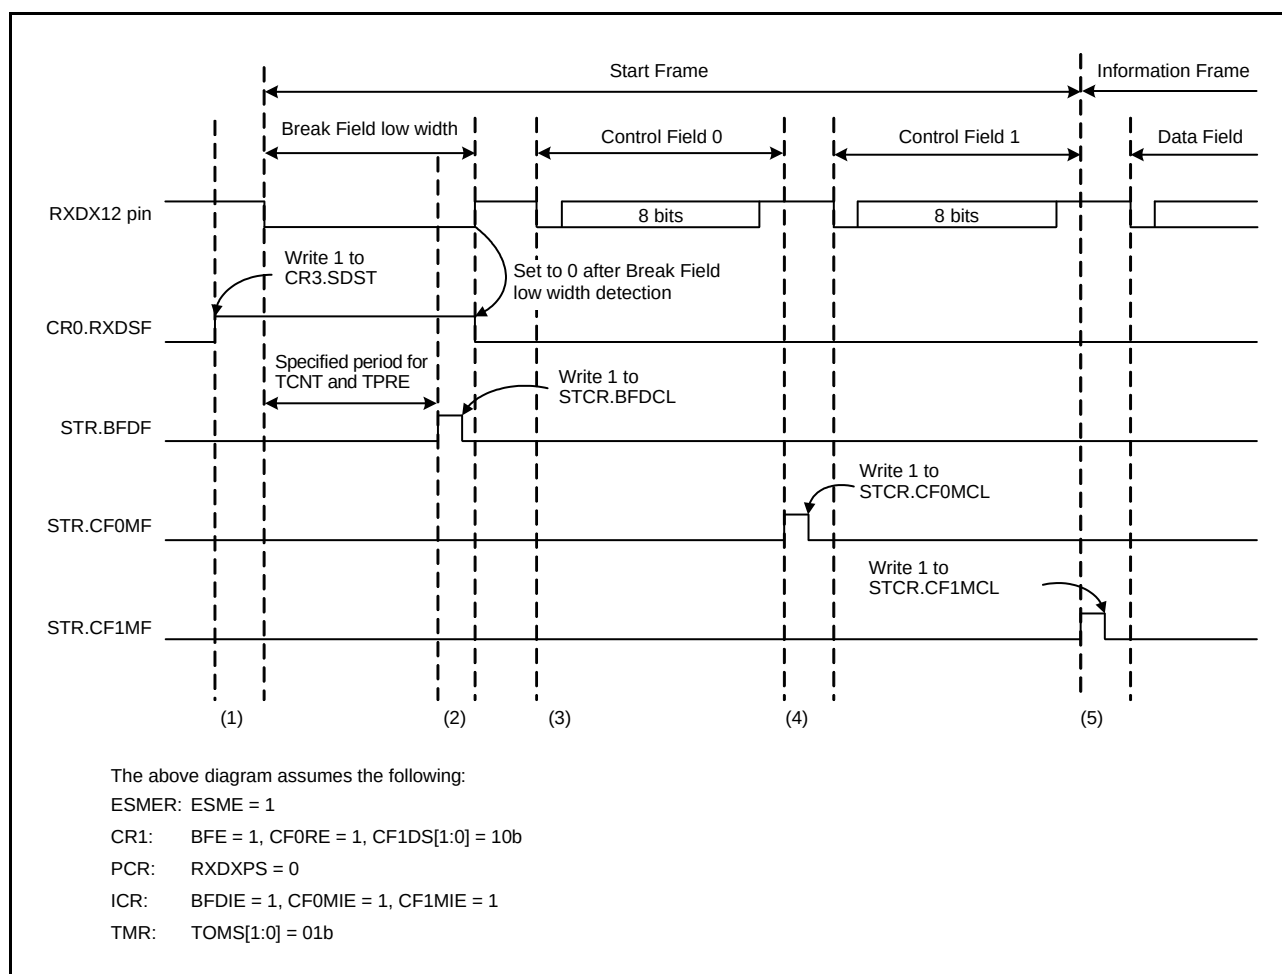
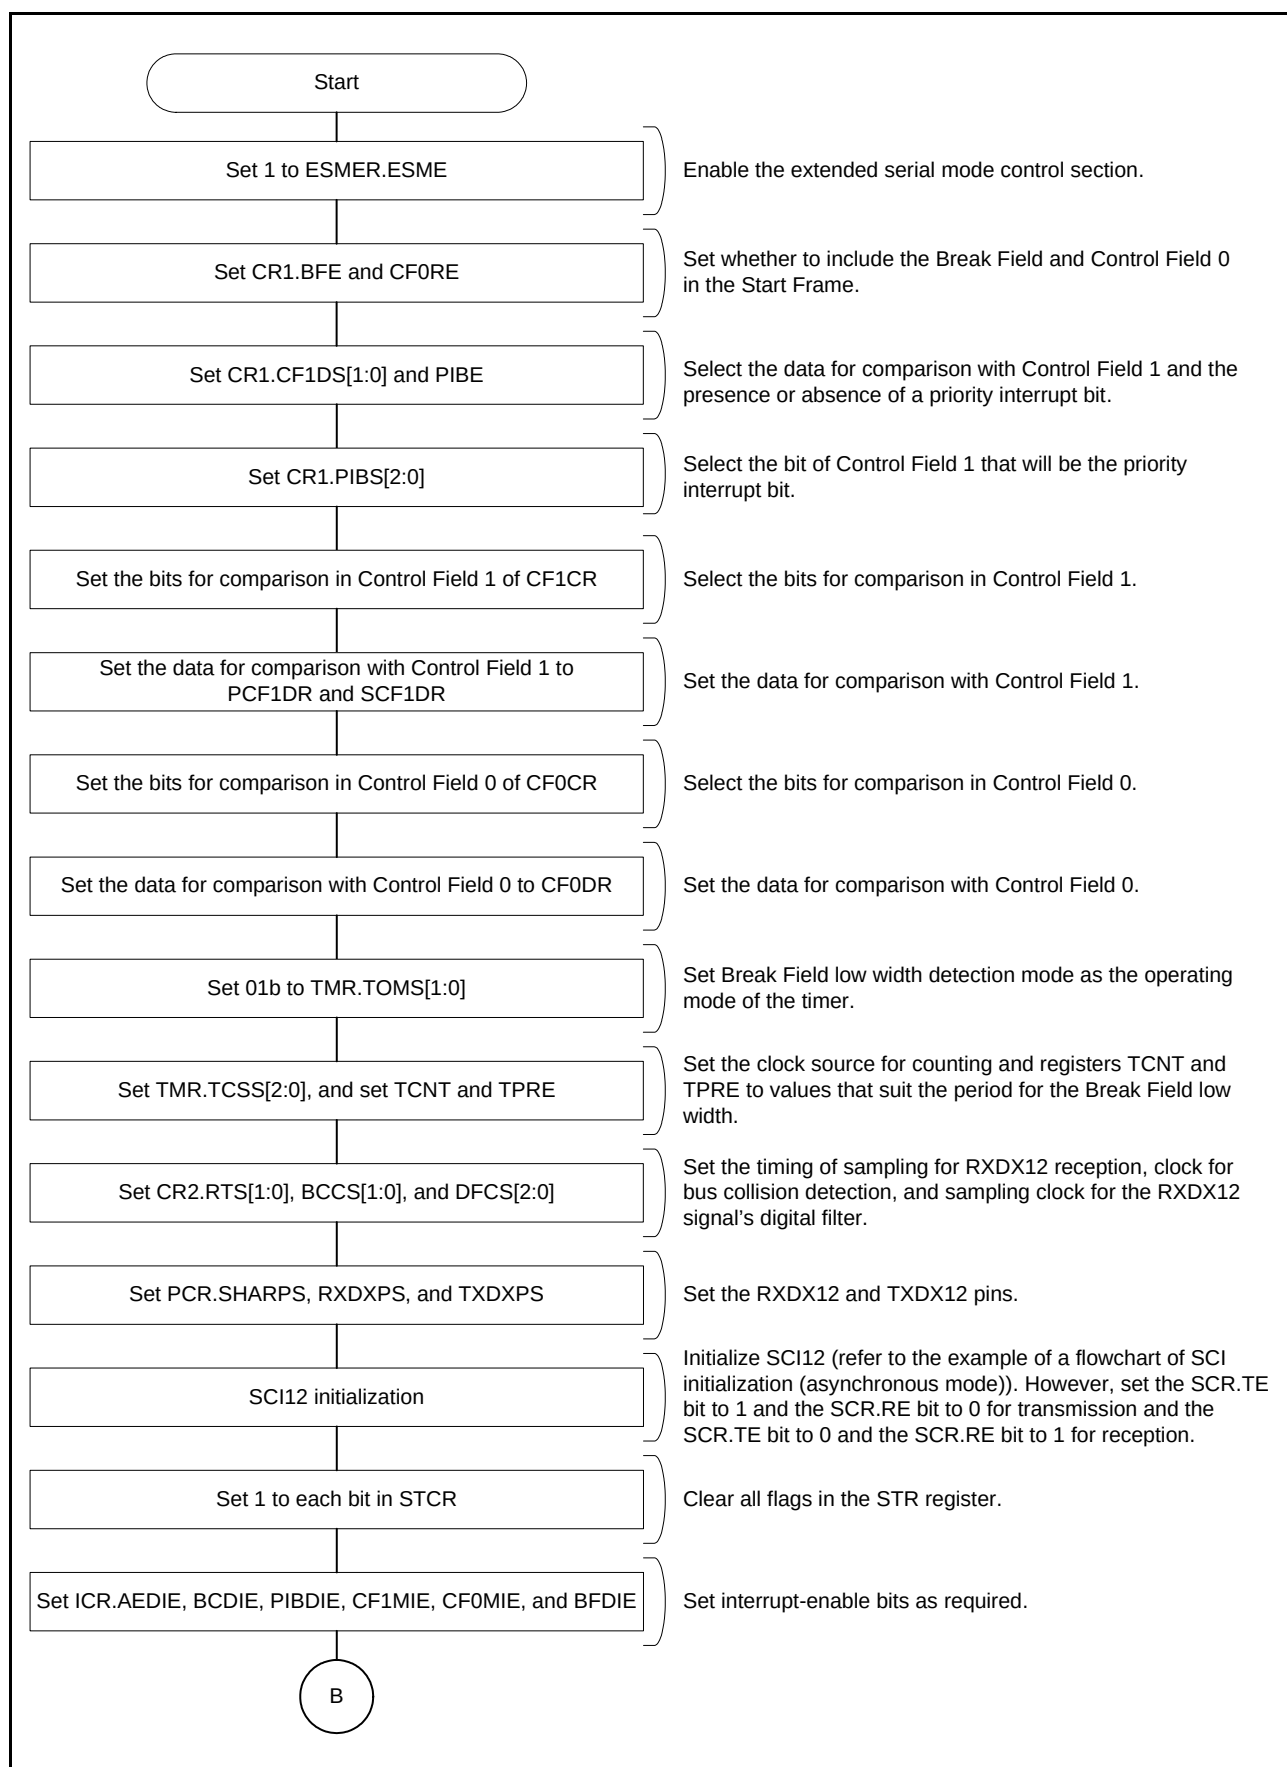
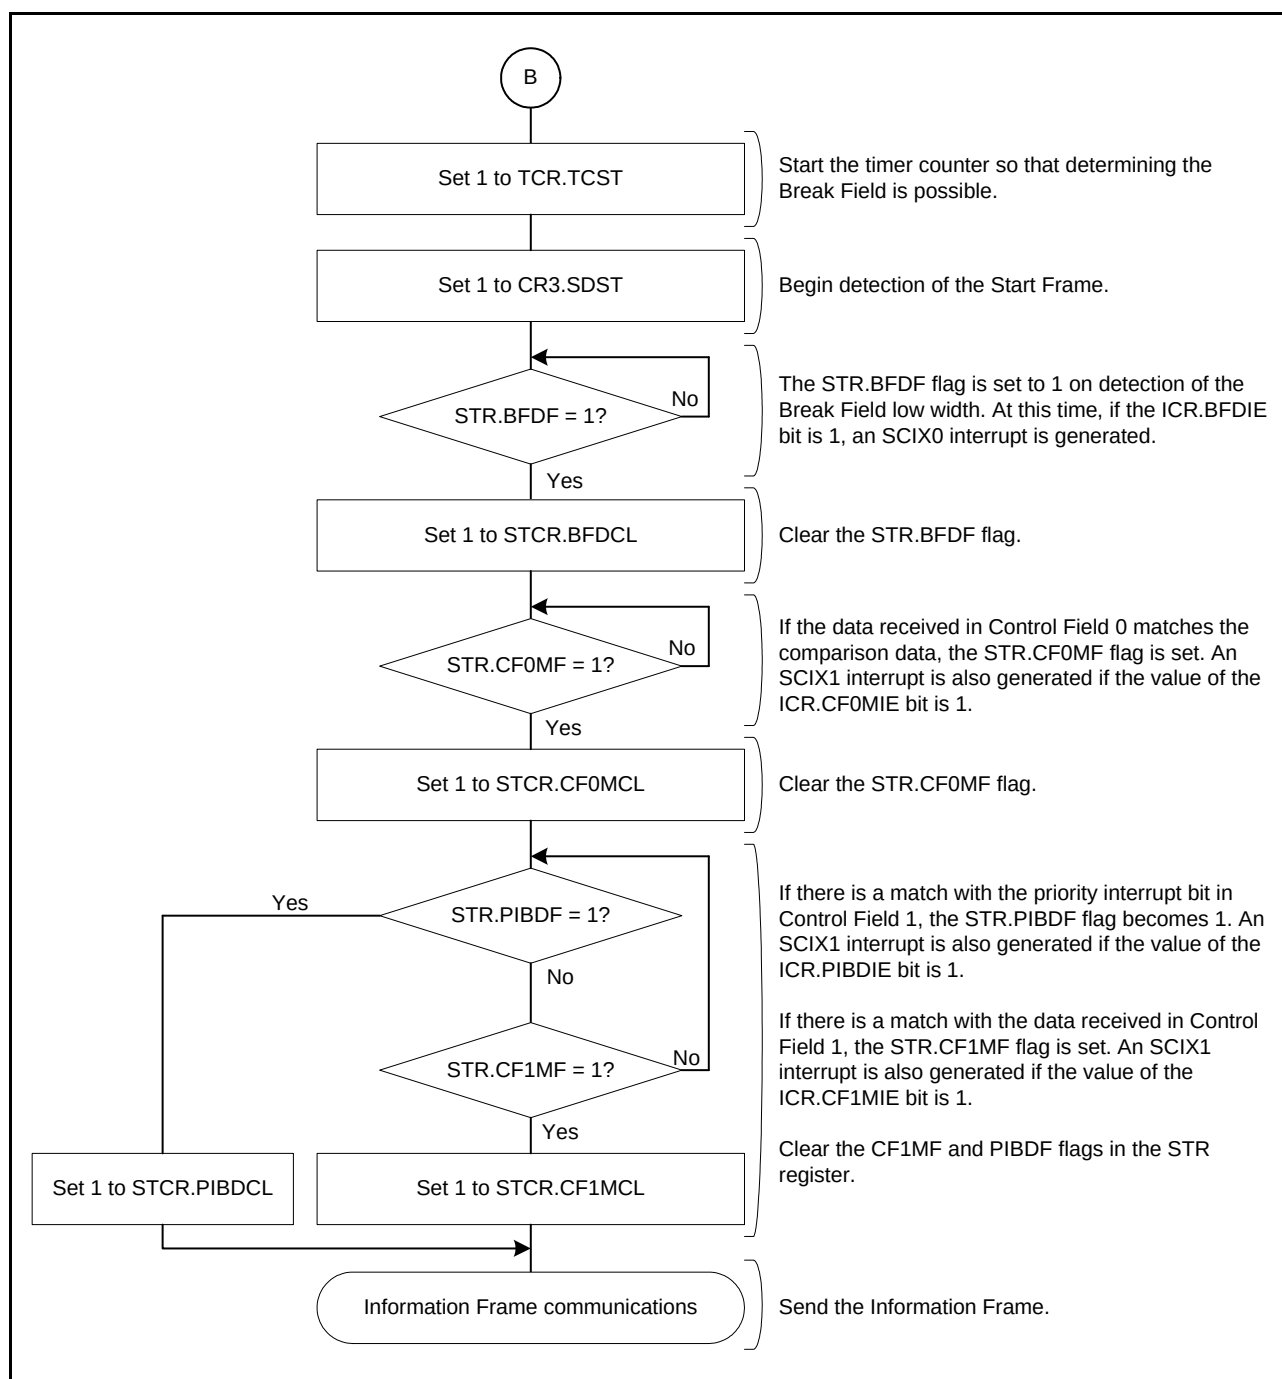
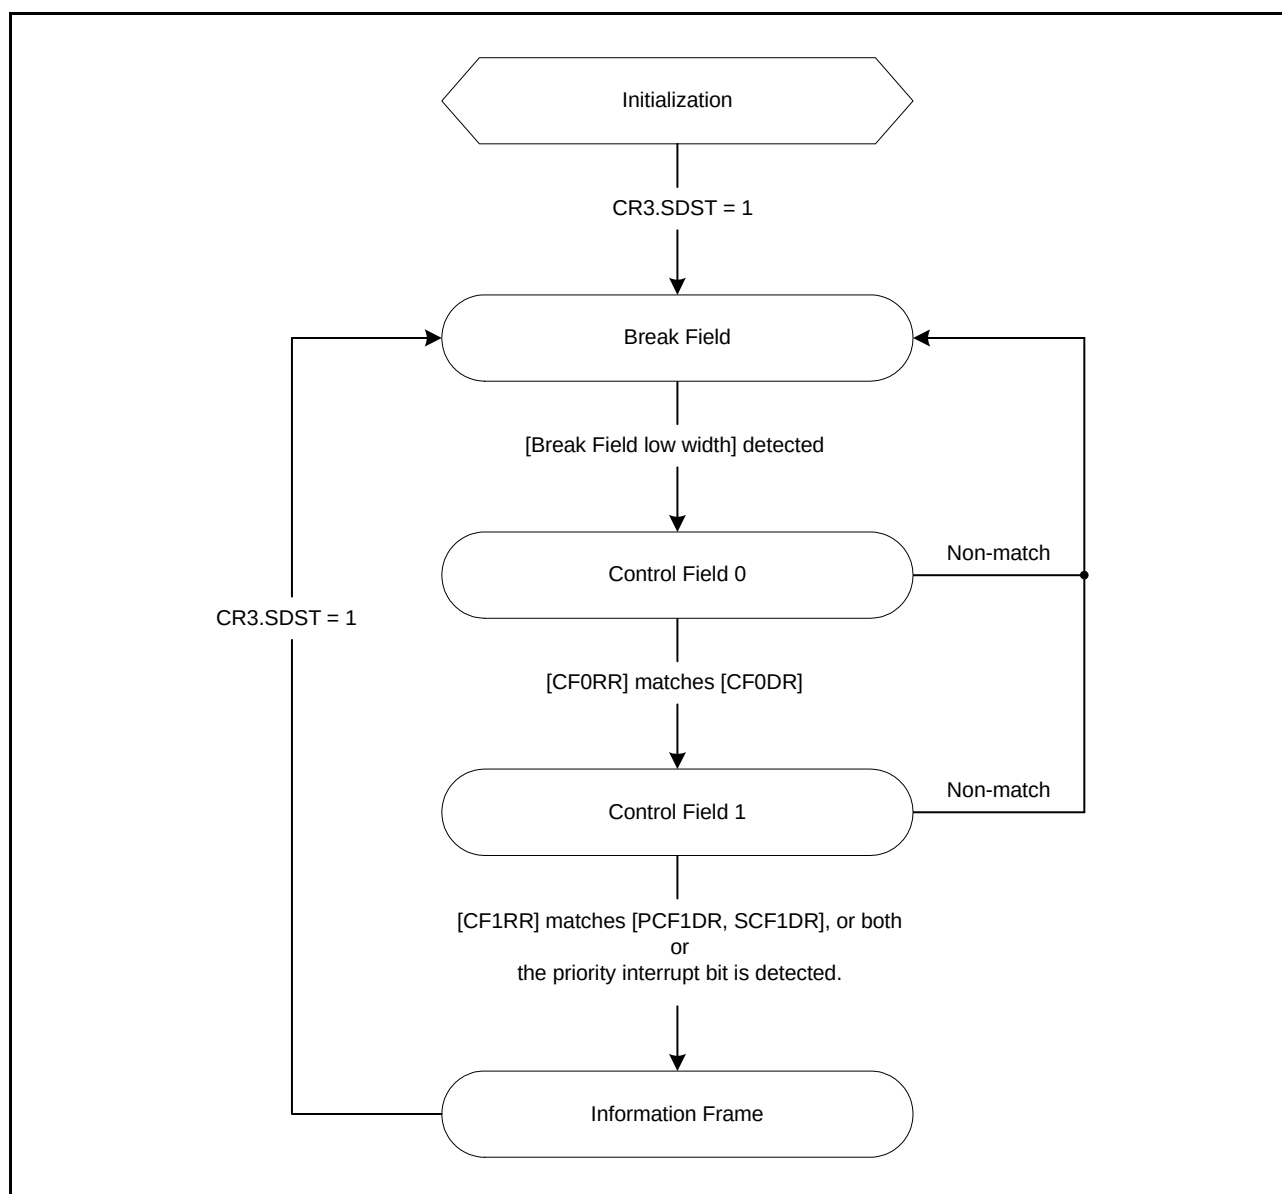

**Figure 23.63 Example of Operations at the Time of Start Frame Reception**
Figure 23.64 Sample Flowchart for Reception of a Start Frame (1)
Figure 23.65 Sample Flowchart for Reception of a Start Frame (2)
Figure 23.66 State Transitions When Receiving a Start Frame
Figure 23.63 shows an example of operations to receive a Start Frame, which is composed of the Break Field low width, Control Field 0, and Control Field 1. Figure 23.64 and Figure 23.65 are flowcharts for the reception of a Start Frame, and Figure 23.66 is a state transition diagram when receiving a Start Frame.
Steps (1) to (4) are the same as in Figure 23.63, for Start Frame reception.
- (5) If the value of the bit selected by the CR1.PIBS[2:0] bits matches the corresponding bit in the PCF1DR register, the STR.PIBDF flag is set to 1. An SCIX1 interrupt is also generated if the value of the ICR.PIBDIE bit is 1. Transfer of the Information Frame starts after that. If the data received in Control Field 1 do not match the data set in either or both of registers PCF1DR and SCF1DR and the priority interrupt bit is not detected, a transition to the state prior to Break Field low width detection proceeds.